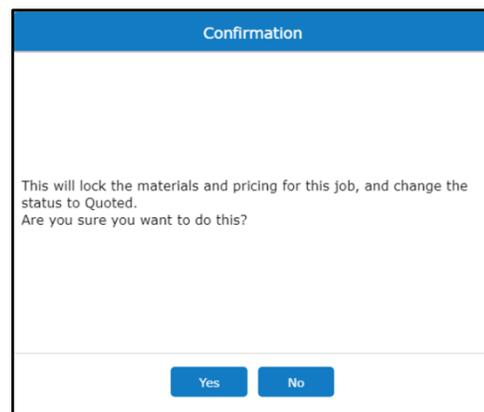

Figure 22: Click *Yes* in the *Confirmation* dialog box to lock down the job's materials and pricing.
5. The *Confirmation* dialog box pictured in **Figure 22** (right) will open. Click on the `Yes` button to close the dialog box and confirm that you are ready to prepare the job for order.